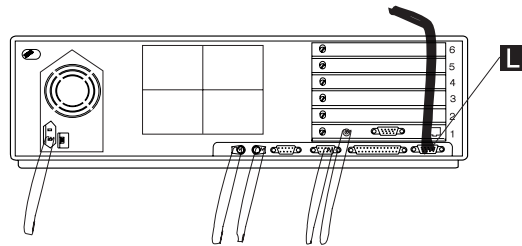

Figure 5-8. Display and Keyboard Cables Connection to the NAS
6. At the rear of the rack, connect the display signal cable **L** to the NAS connector (refer to Figure 5-8).